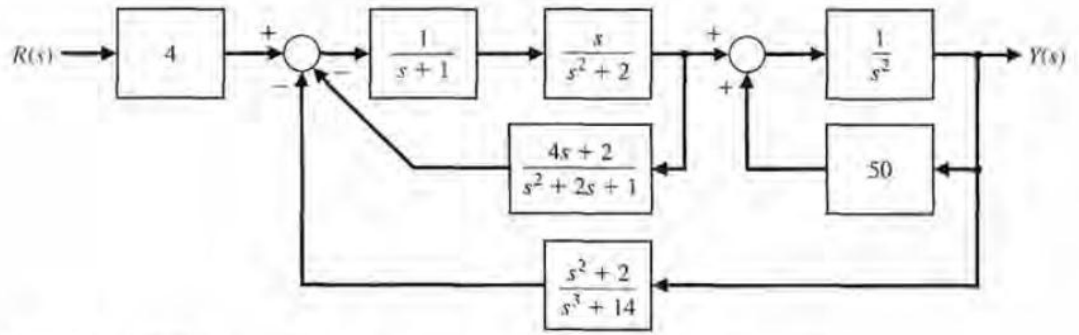

FIGURE CP2.6 A multiple-loop feedback control system block diagram.
CP2.6. Consider the block diagram in Figure CP2.6.
- (a) Use an m-file to reduce the block diagram in Figure CP2.6, and compute the closed-loop transfer function.